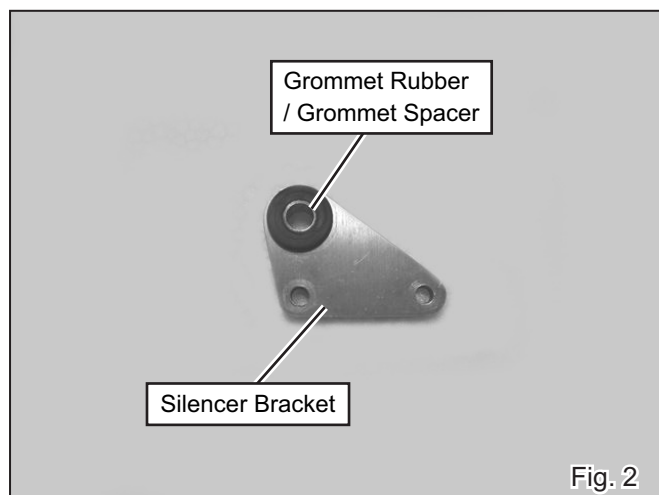

Fig. 2
- 3) Attach Grommet Rubber and Grommet Spacer to Silencer Bracket (See Fig. 2).